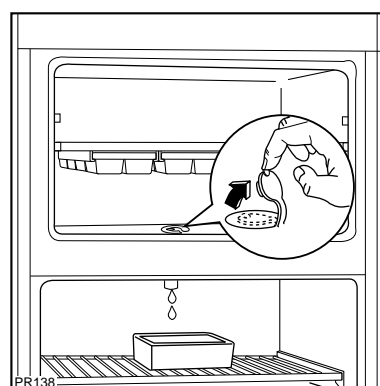

Fig. 8
- turn the thermostat dial to the «OFF» position (O) or disconnect the appliance from the mains.
- Leave the door open, place a basin on the top shelf of the refrigerator compartment, under the drain hole, lift the plug as shown in the figure 8.